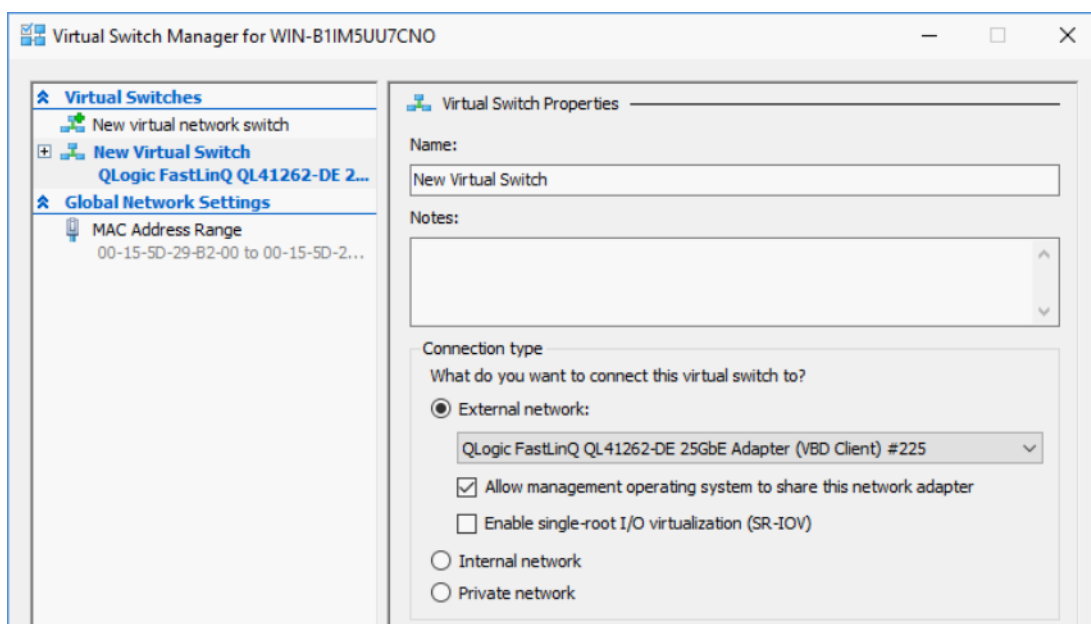

Figure 15-1. Enabling RDMA in Host Virtual NIC
3. Click **Virtual Switch Manager** (see Figure 15-1).